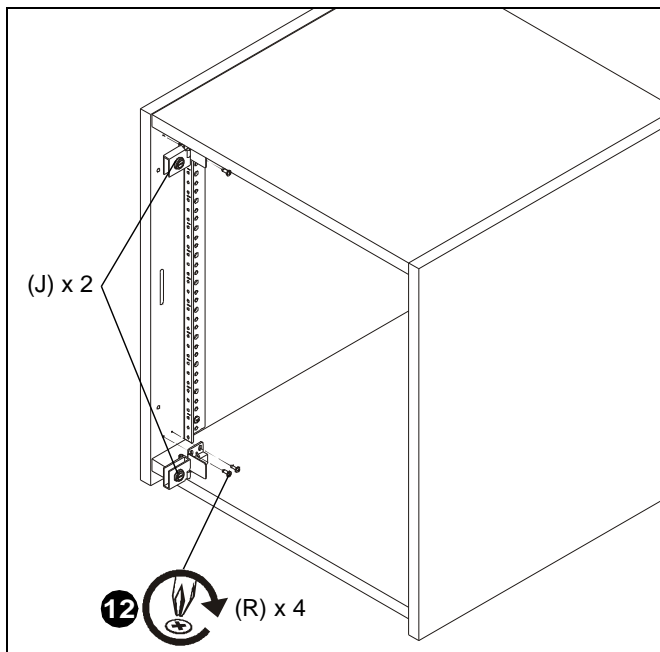

Figure 6
12. Use two #10- x 5/8" wood screws (R) to secure each brass hinge (J) to side panel (A or B). (See Figure 6)